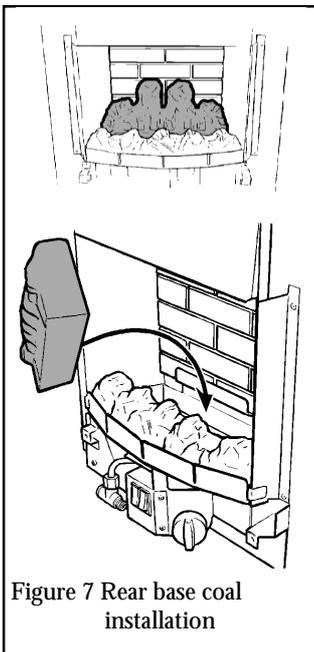

Figure 7 Rear base coal installation
**3** Place the rear base coal in the burner compartment behind the front coal. It should rest on the ledge at the back of the burner compartment and its rear face should touch the rear ceramic wall (See figure 7).